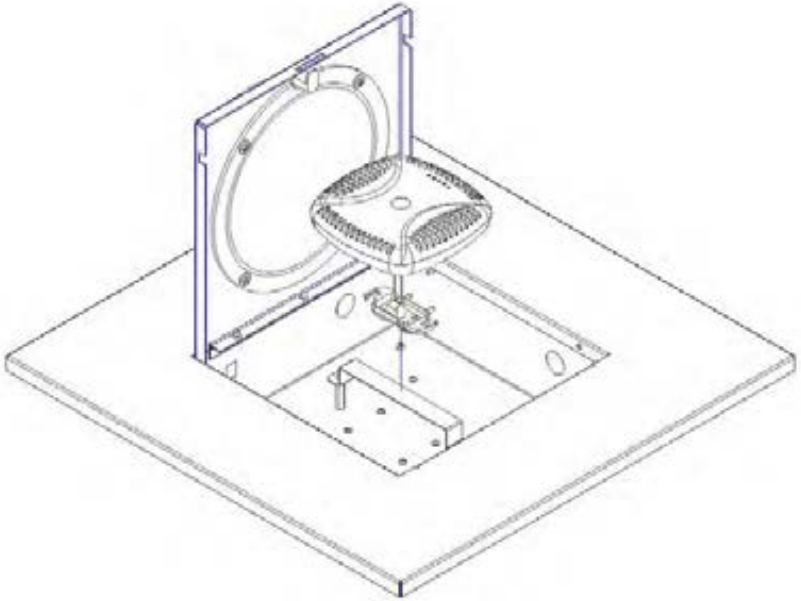

Figure 1
Step 1 – Place the ceiling enclosure assembly on the work surface with the keyed doorway unlocked. Remove hole knock outs located on the outside edge of the back box to install conduit connectors. Install one conduit connector if equipment is powered over the data cable, or install 2 conduit connectors on opposite sides of the back box if bringing in power and data cables separately (Ref. Figure 1).